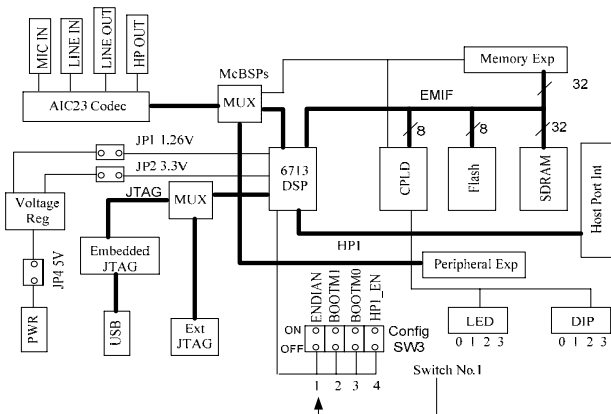

Fig. 1 Block diagram of the TMS320C6713 DSK board [12]
Digital signal processors such as the TMS320C6x family of processors are like fast special-purpose microprocessors with a specialized type of architecture and instruction sets suitable for signal processing [2]. The TMS320C6713 DSK board is powerful and relatively cheap, having the necessary supporting tools for real-time signal processing [2]-[11]. It includes the TMS320C6713 floating-point digital signal processor and a 32-bit stereo codec TLV320AIC23 (AIC23) for input and output (see Fig.1). The onboard codec AIC23 uses a sigma-delta technology that provides A/D and D/A [2]. The DSK board operates at 225MHz and it can be easily set to variable sampling rates of 8 to 96 kHz [2]. Four connectors on the DSK board provide input and output. They are: LINE IN for line input, MIC IN for microphone input, LINE OUT for line output, and HEADPHONE for a headphone output. Note that LINE OUT is multiplexed with HEADPHONE. The status of the four user dip switches on the DSK board can be read, which provides the user with a feedback control interface. For more information regarding the TMS320C6713 DSK board, refer to references [12], [13], [18]-[20].
1. Switch 1 in the Config SW3 as shown in Fig.1 must be placed in the **OFF** position [12], [14], [15].
1. Switch No.1 in the Config SW3 as shown in Fig.1, must be in the **ON** position.
4. Add the library file: **rts6701e.lib** for assembly language programming and add the library files: **rts6701e.lib, csl6713e.lib, dsk6713bsle.lib** for signal processing (i.e. input and output signal manipulation). For more clarity see Figs. 1 and 3.